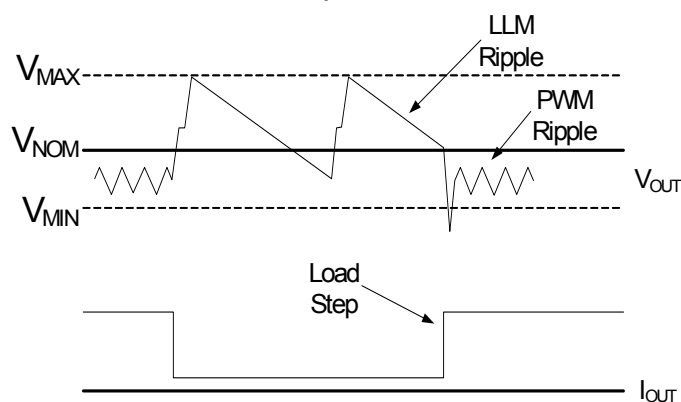

Figure 5. V_{OUT} behavior in LLM operation.
- (1) Step V_{OUT} up by approximately 1.0% above the nominal operating output voltage setting, V_{NOM} and as low as -0.5% below V_{NOM} , and then
- (2) Shut down unnecessary circuitry, and then
- (3) Monitor V_{OUT} .
When V_{OUT} falls below V_{NOM} , the device will repeat (1), (2), and (3). The voltage step up, or pre-positioning, improves transient droop when a load transient causes a transition from LLM mode to PWM mode. If a load transient occurs, causing V_{OUT} to fall below the threshold V_{MIN} , the device will exit LLM operation and begin normal PWM operation. Figure 5 demonstrates V_{OUT} behavior during transition into and out of LLM operation.